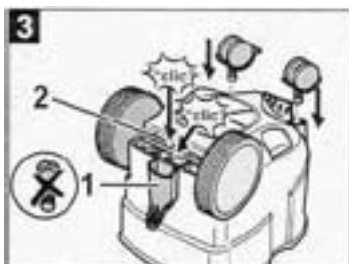

fig. 3
- mount the wheels on the lower side of the tank. Wheels should snap in audible. (fig. 3)